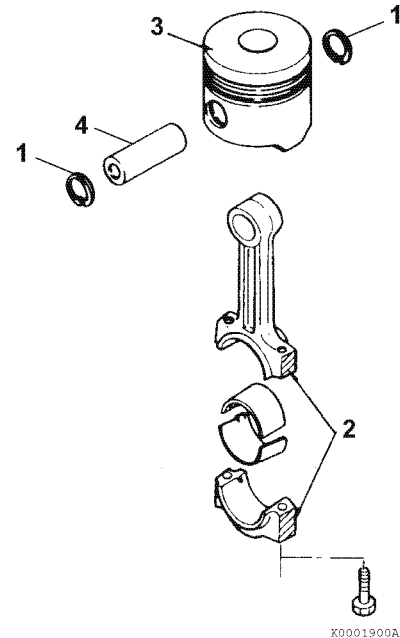

Figure 6-48
14. Remove the wrist pin circlips (1, Figure 6-48) from the piston.
15. Support the piston (3, Figure 6-48) and drive the wrist pin (4, Figure 6-48) from the piston. Use a soft-faced hammer and a suitable driving tool that has a smaller diameter than the inside diameter of the wrist pin bore. Remove the connecting rod (2, Figure 6-48) from the piston.